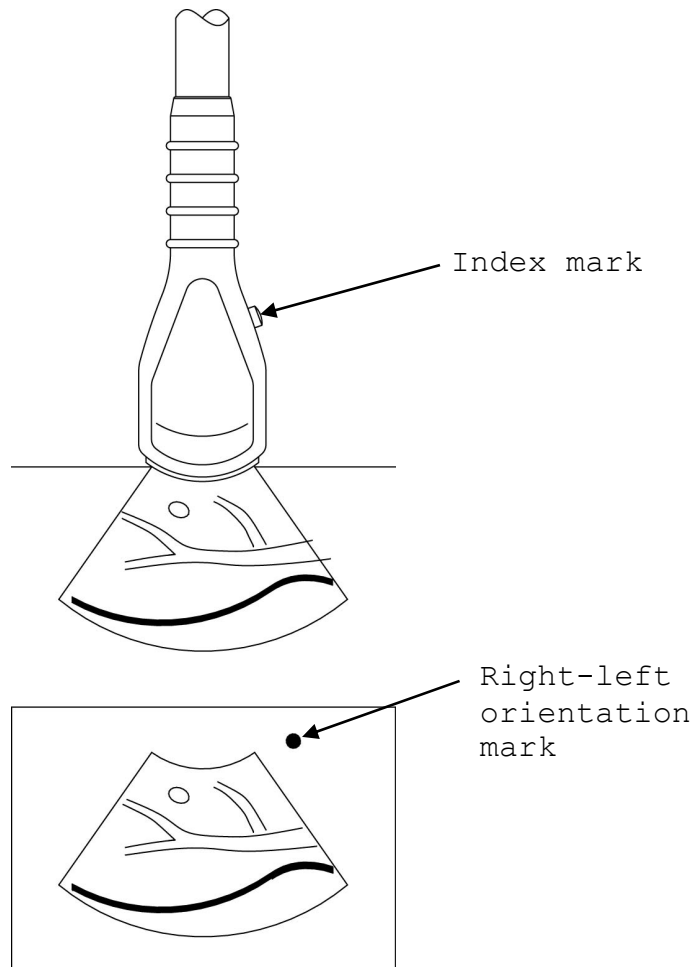

Fig. 2 Relationship between the directions of the probe and the Right-left orientation mark
- 4) Confirm the direction of the probe. The relationship between the direction of the probe and image is shown in Fig. 2. The Right-left orientation mark on the image indicates the direction of the index mark of the probe.